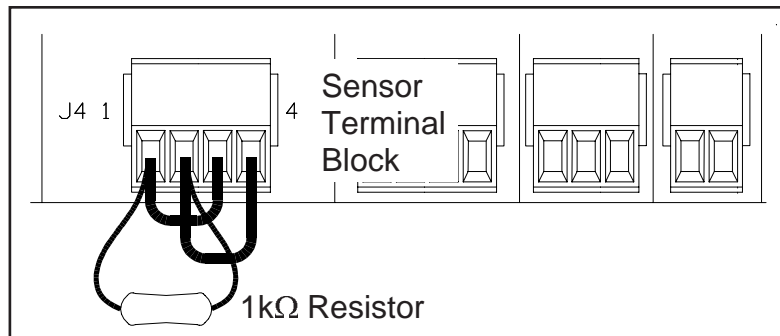

Figure 2
5. Install the 1k Ω resistor between positions 1 and 2 of the sensor terminal block. See Figure 2.